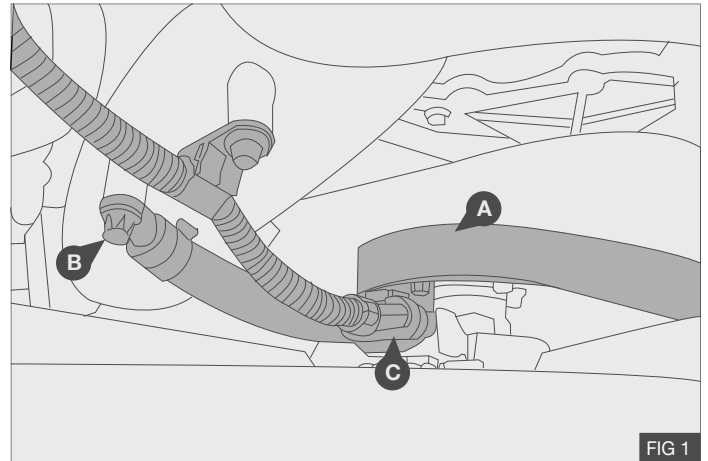

FIG 1
1. Remove and discard the original stretch belt (A) from the fan assembly – Fig 1
2. Remove and retain bolt (B) securing the fan support tube – Fig 1
3. Disconnect the wiring plug (C) from the fan assembly – Fig 1
1. Refit bolt (B) securing the fan support tube – Fig 1
2. Reconnect the wiring plug (C) from the fan assembly – Fig 1